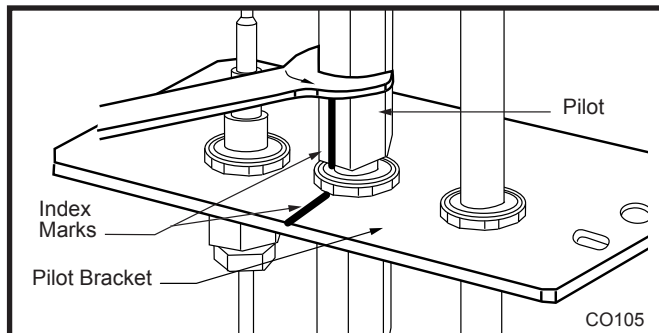

Fig. 55 Remove pilot hood. (Your pilot may have a different appearance).
8. Remove injector orifices from left burner leg using 1/2" wrench. (Fig. 55)
- Loosen pilot hood turning counterclockwise using a 7/16" wrench. (Fig. 55) **NOTE:** You may use penetrating oil to prevent pilot hood threads from seizing up.